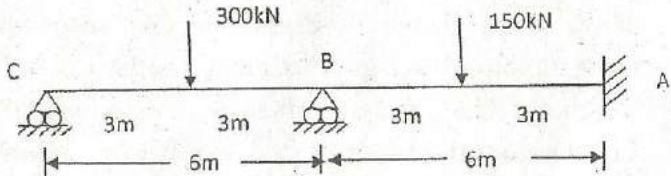

Figure 4
8. Analyse the continuous beam shown in Figure 4. using stiffness method.